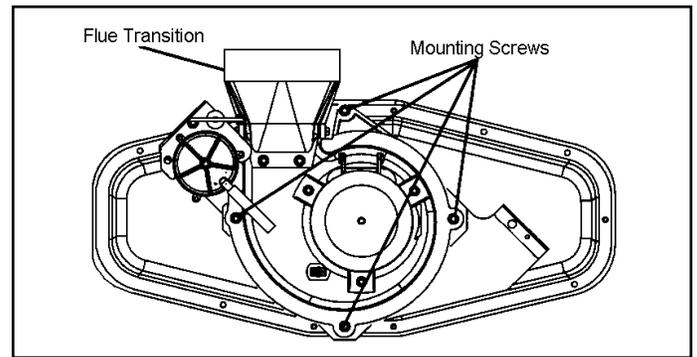

Figure 14. Mounting Screws Location
1. Remove the four mounting screws (Figure 14) which secure the combustion air inducer / pressure switch assembly to the orifice plate. Lift the assembly and rotate it 90° clockwise or counter clockwise to either the 3 o'clock position. Resecure with four screws. Gasket should be left in place.